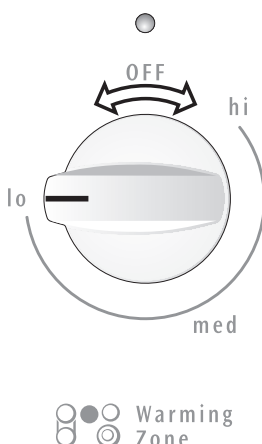

Fig. 1
1. Push in & turn the knob in either direction to the desired setting (See Fig 1). The temperatures are approximate & are designated by **HI**, **MED** & **LO**. However, the control can be set at any position between **HI** & **LO** for different levels of warming.